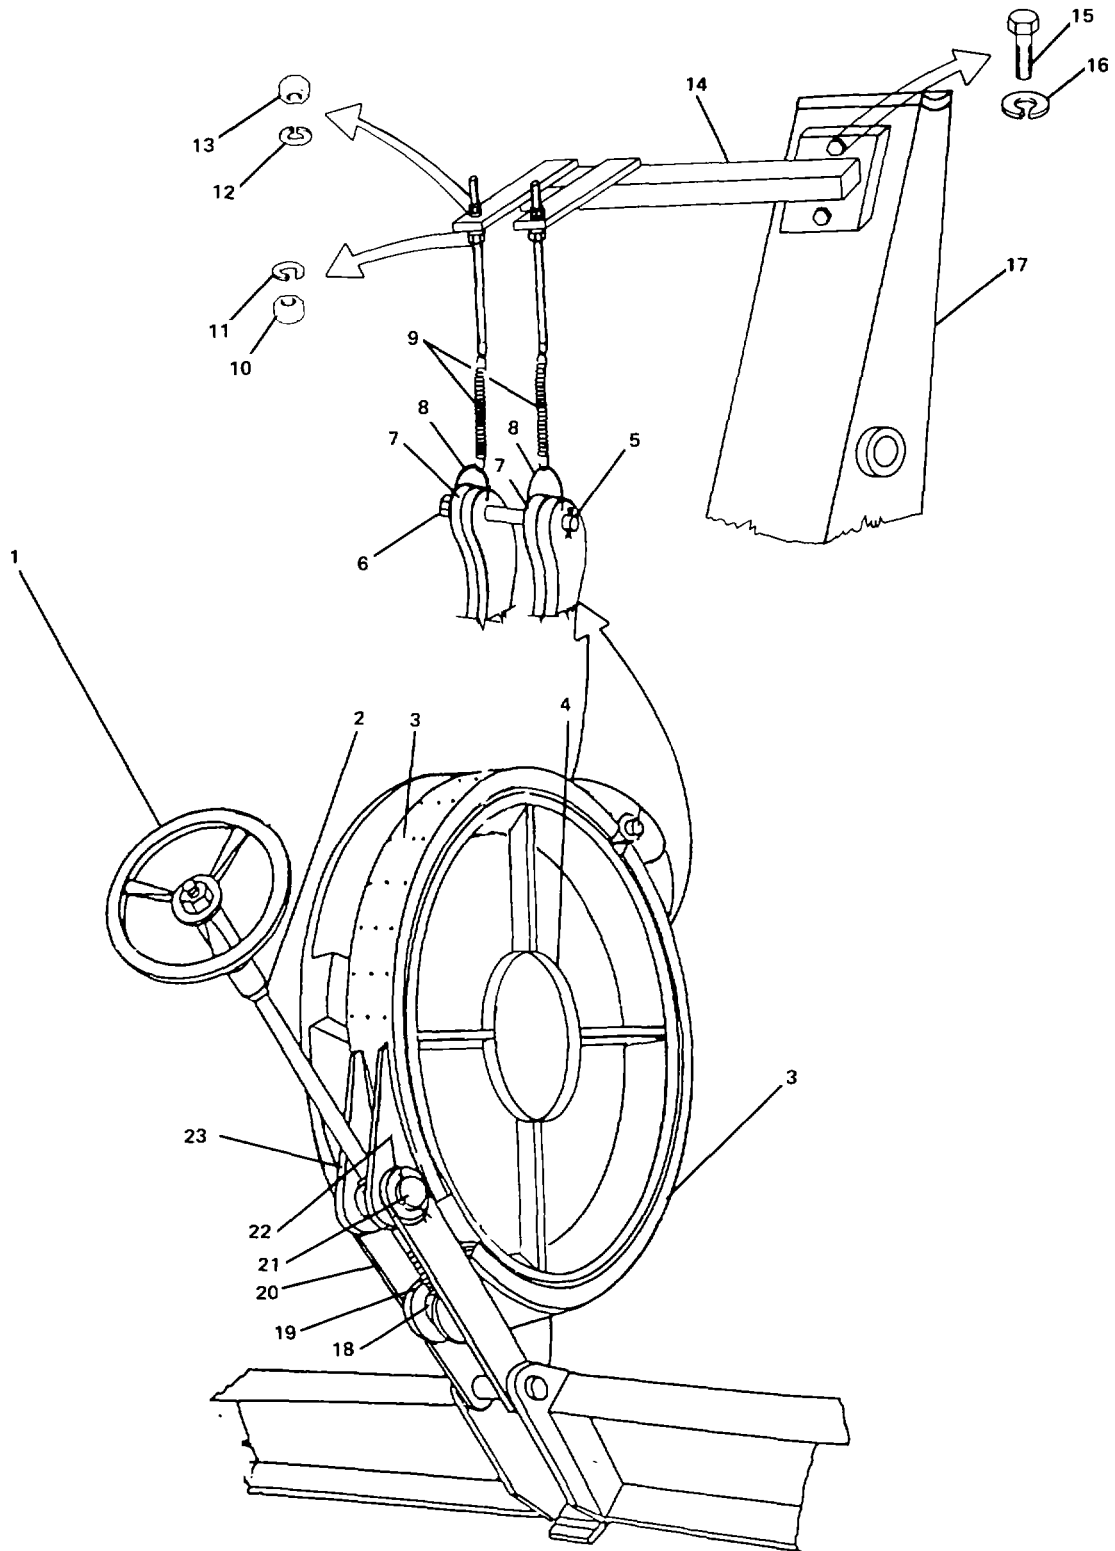

FIGURE 4-14. Mechanical Brake Assembly
- (1) Remove two hexagon head capscrews (1) and lockwashers (2) securing cathead retaining plate (3) and gypsy cathead (4) to spool shaft (5).
- (2) Remove gypsy cathead and cathead retaining plate to a clear area.
- (3) Remove two hexagon head capscrews (9) and lockwashers (8) securing cathead retaining plate (7) and gypsy cathead (6) to spool shaft (5).
- (4) Remove gypsy cathead and cathead retaining plate to a clear area.
- (5) Retain machine keys (10).
p. Springs. (FIGURE 4-14)
- (1) Maintain an upward pressure on spring support bracket (14) as hexagon head machine bolts (15) and lockwashers (16) are removed.
- (2) Lower spring support bracket (14) to release springs (9) from spring eyelets (8) and remove as an assembly to a secure area.
q. Split Brake Band Pin. (FIGURE 4-14)
- (1) Turn mechanical brake handwheel (1) counterclockwise to release braking tension.
- (2) Remove cotter pin (5) from rear brake pin (6).
- (3) Support weight of bottom brake band (3) as brake pin (6) is withdrawn from brake band bracket (7). Lower bottom brake band to base of winch platform.
- (4) Remove thread end rod (2) by turning brake handwheel (1) counterclockwise until rod disengages from headless straight pin (18).
- (5) Remove two cotter pins (22) from brake pin (21).
- (6) Withdraw brake pin (21) from anchor brake arm (20) and brake band bracket (23).
(7) Lower anchor brake arms (20) outward to provide clearance for brake band removal.
(8) Withdraw headless straight pin (18) from brake band bracket (19).
r. Brake Bands. (FIGURE 4-14)